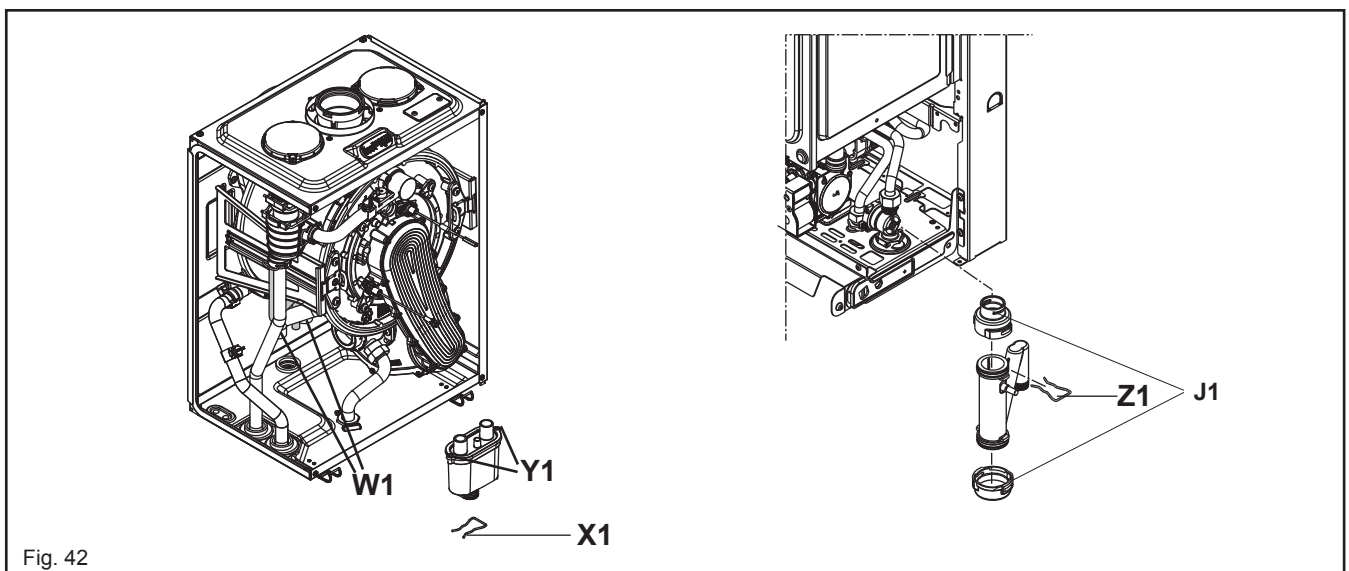

Fig. 42
6.19 CONDENSE TRAP REMOVAL (fig. 42)
THE GAS VALVE MUST BE SET-UP OR ADJUSTED WITH THE AID OF A PROPERLY CALIBRATED FLUE GAS ANALYSER. Isolate the appliance from the electrical supply and remove the appliance casing as described in 4.7.1. Set the flue gas analyser to read CO₂ and insert the probe into the flue analysis test point (fig. 42). Restore the electrical supply to the boiler and switch the boiler to the OFF mode.
- Insert the flue gas analyser probe into the flue gas test point (see fig. 42).